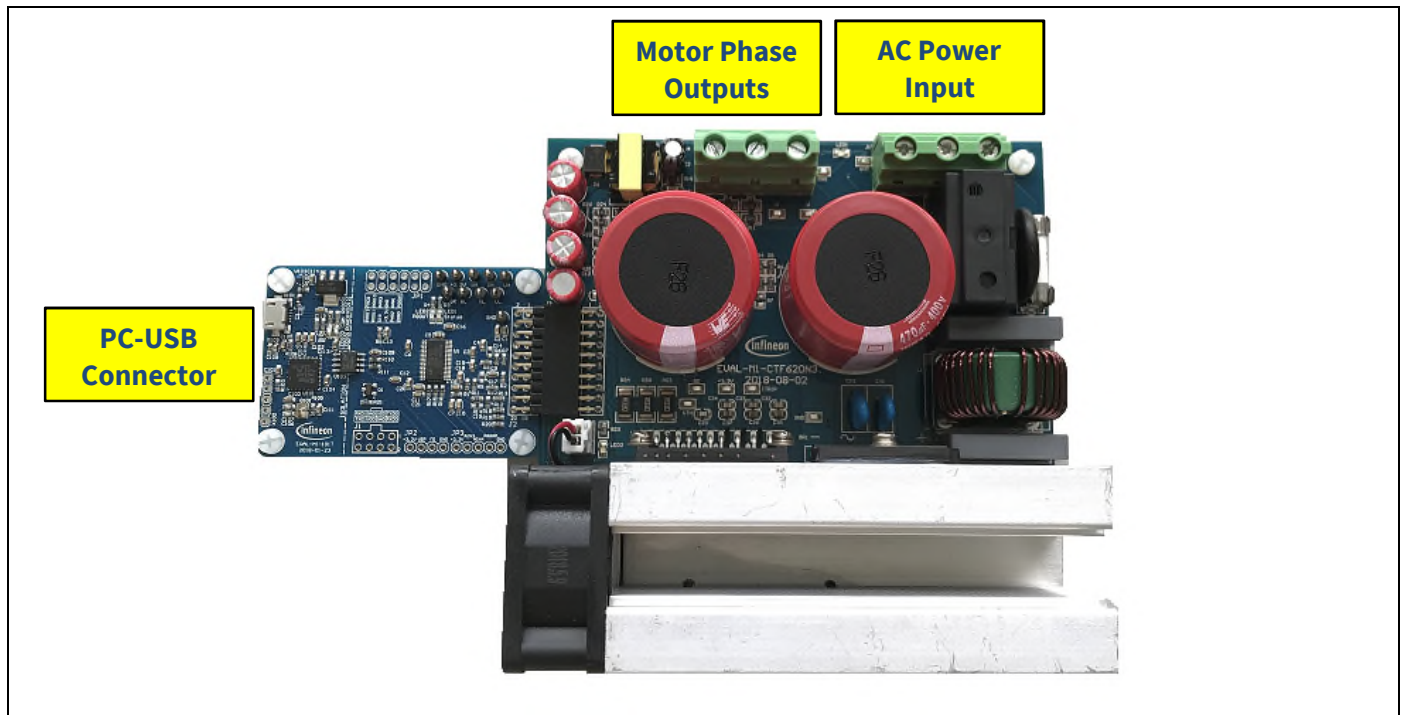

Figure 5 System connection example using EVAL-M1-CTF620N3 and EVAL-M1-101T
Figure 5 shows the system connection using EVAL-M1-CTF620N3 and control board (used control board EVAL-M1-101T for example).
2. Connect EVAL-M1-CTF620N3's MADK M1 20-pin interface connector (J2) to control board (see Figure 5).